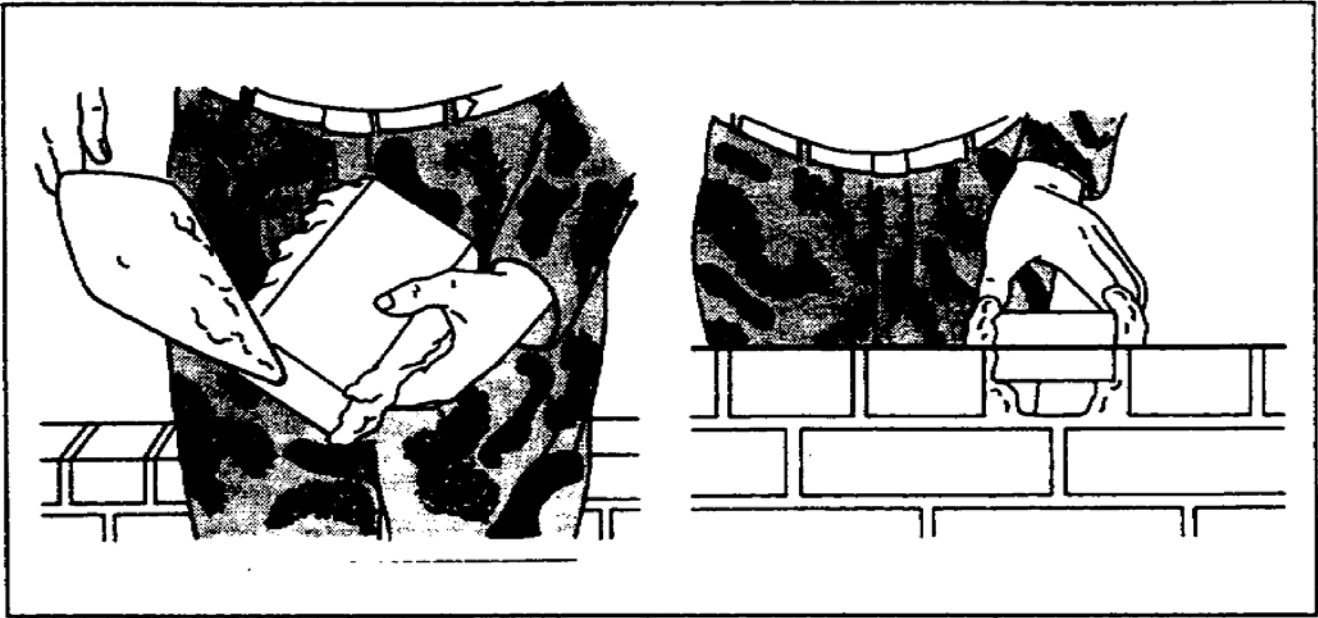

Figure 3-10. Buttering and placing the closure brick in the header course
a. Header Closure. Figure 3-10 shows the proper way to butter and place a closure brick in a header closure. After buttering the opening, put as much mortar as will stick on both faces of the header and push it into place.